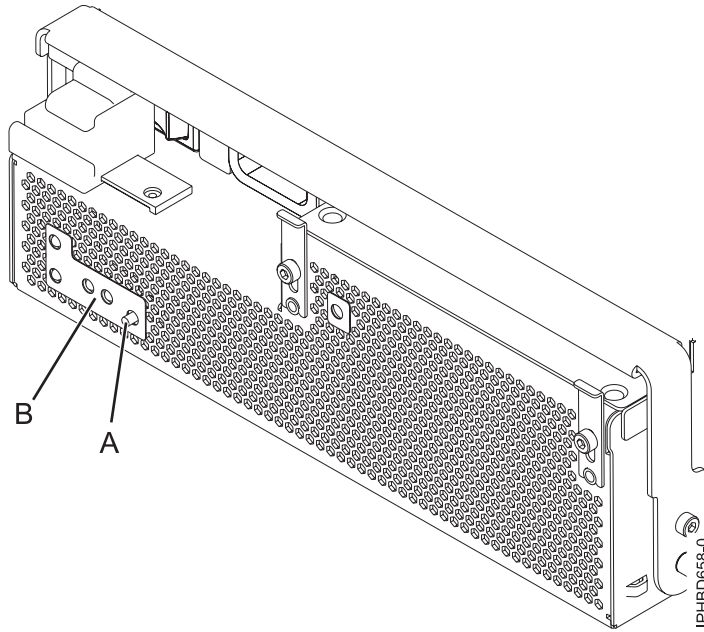
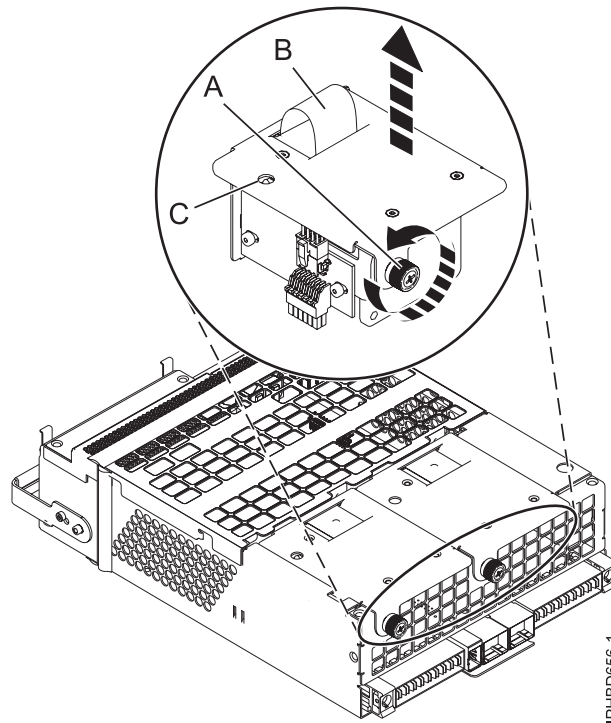

Figure 37. Fan fault LED and fan identify button
Figure 38. Removing a fan
Note: If a fan fails, the amber fan fault LED (B) on the front of the Offline Converter Assembly (OCA), as shown in Figure 37 on page 61, is on solid.
- a. Identify the failing fan by pressing the fan identify button (A) shown in Figure 37. An amber left or right fan-fault LED (C) on solid, as shown in Figure 38, indicates the faulty fan.
- b. Loosen the thumbscrew (A) that holds the fan in the power-supply assembly, as shown in Figure 38.
- c. Use the recessed fan handle **(B)** to pull the fan out of the power-supply assembly, as shown in Figure 38 on page 61.